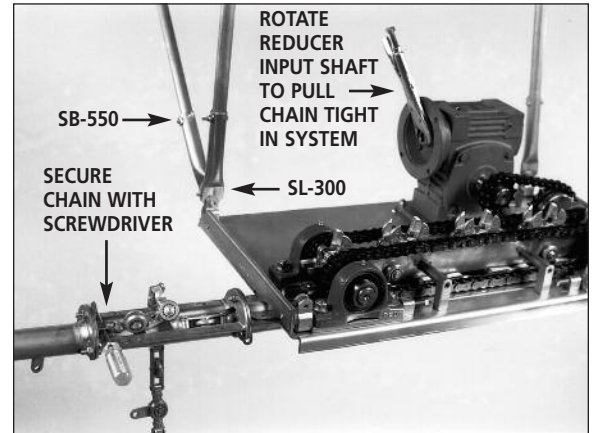

Figure 13
- By securing the chain in the inspection section where it was loaded, the reducer input shaft can be rotated to pull the chain tight throughout the system. See **Figure 13**. The proper length of chain required can now be cut by grinding off the appropriate rivet and punching it out. Make sure an increment of 6" is kept between pendants. A horizontal chain link must always connect to a vertical link. With the chain still tensioned, connect the ends together.